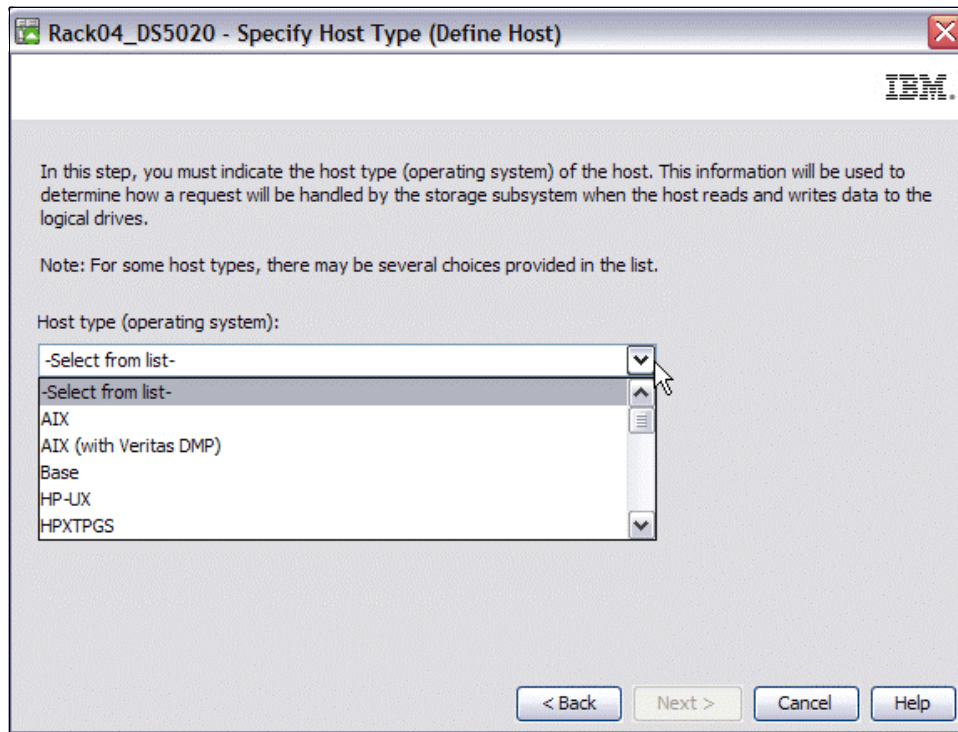

Figure 6-30 Select Host type
- e. Click **Next** to go to the window that allows to specify the host type, as shown in Figure 6-30. In our case, we chose **Linux** from the drop-down menu.